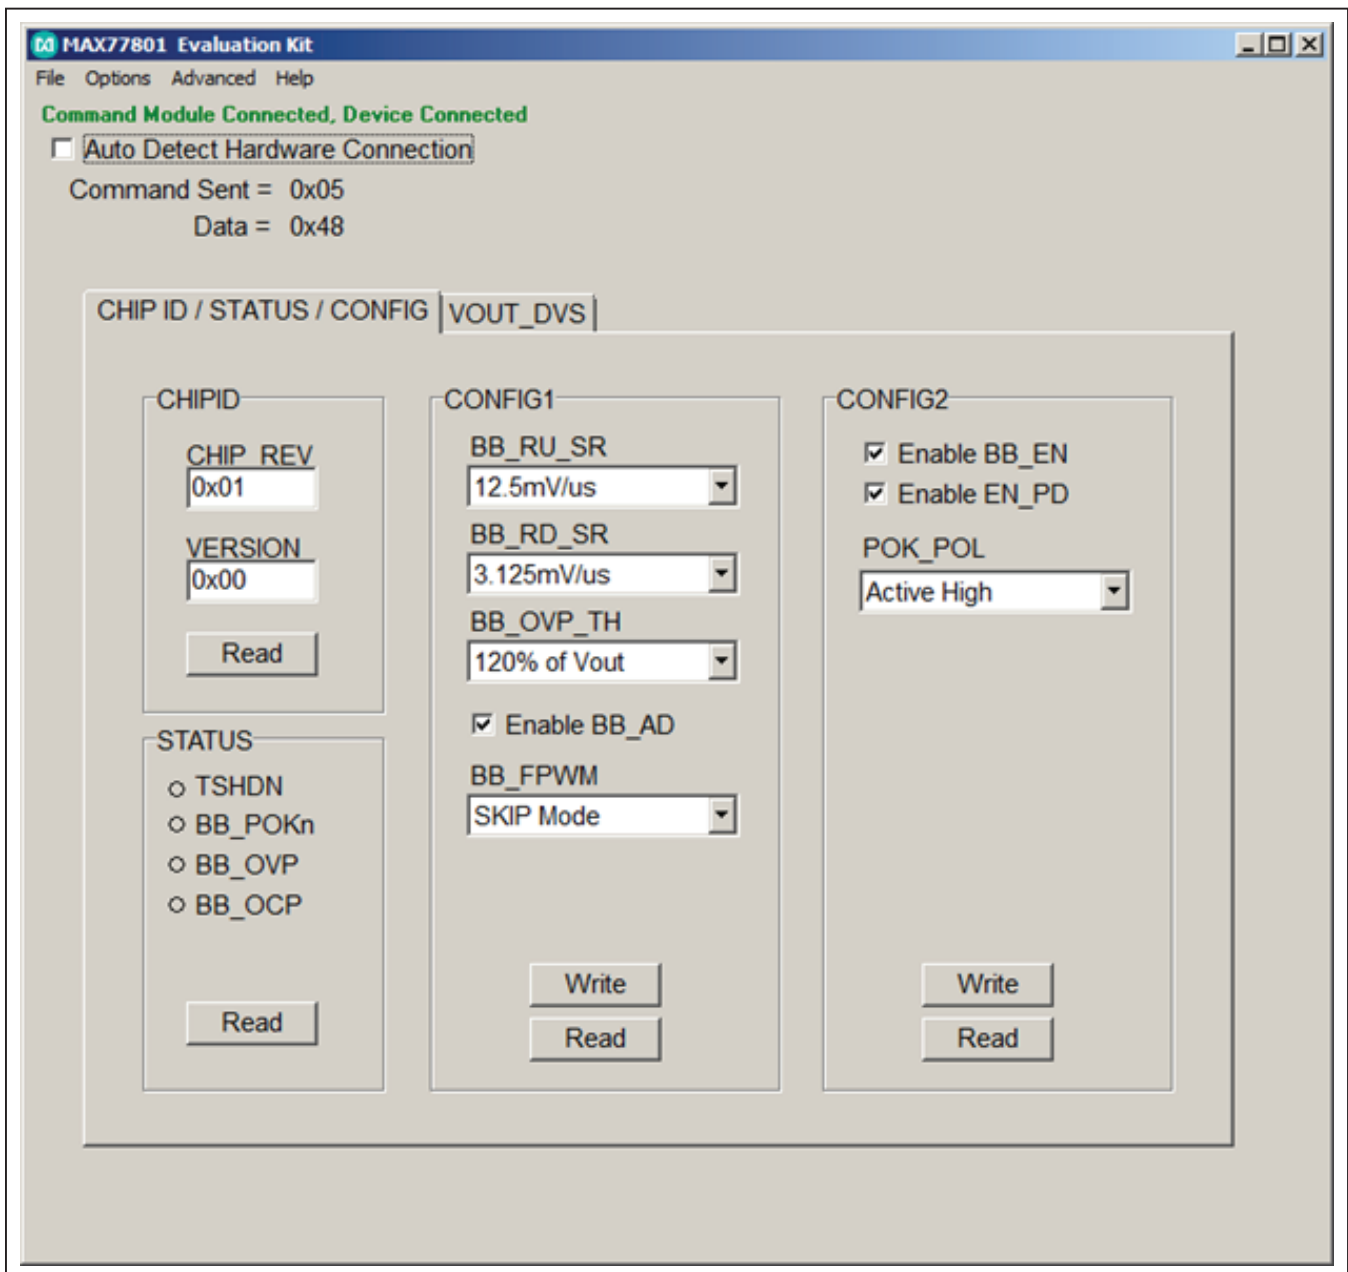

Figure 2. MAX77801 Evaluation Kit Software Window (CHIPID/STATUS/CONFIG Tab)
- 11) Start the EV kit software by opening its icon in the **Start | Programs** menu. The EV kit software main window appears, as shown in Figure 2.
The GUI shown in Figure 2 is the main window of the MAX77801 EV kit software that provides a convenient means to control the MAX77801 IC. Use the mouse or press the Tab key to navigate through the GUI controls.
The EV kit software main window consists of two tabs, **CHIPID/STATUS/CONFIG** (Figure 2) and **VOUT_DVS**